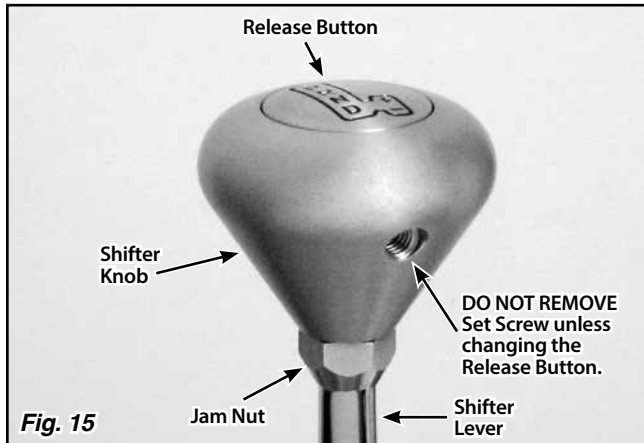

Fig. 15
- Step 2:** Loosen the jam nut below the shifter knob. **DO NOT** loosen or remove the set screw in the knob. **Fig. 15**